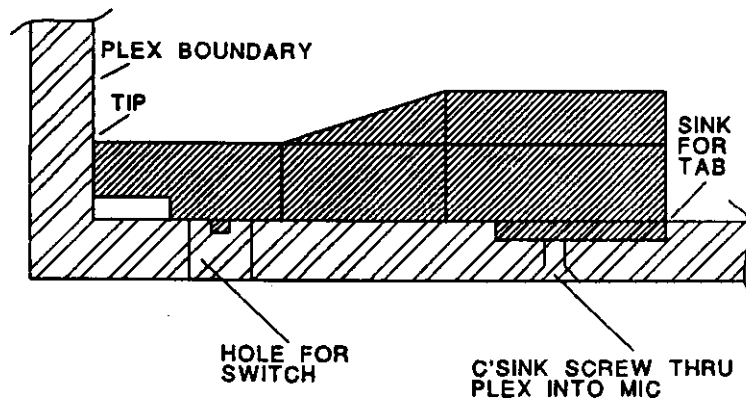

Fig. 5. Mount mic tip in apex of pyramid.
2. Mount the mic so that its tip touches the apex of the pyramid, or the corner of the PZM-2 boundary (Fig. 5).